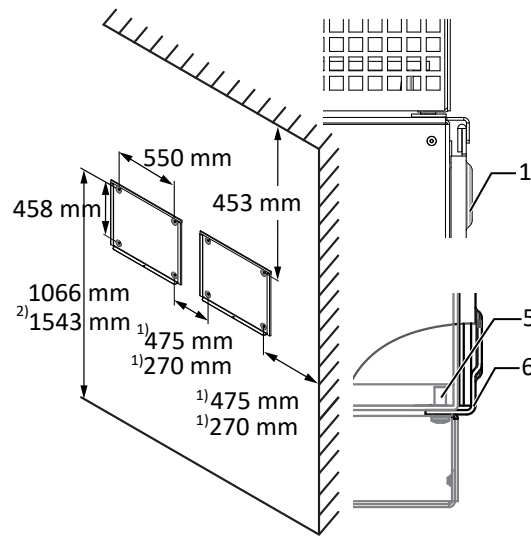

Fig. 17: Wall mounting
- Minimum clearances to be observed during installation: [See figure 17] [▶ Page 18]
2 Fit the device onto the upper mount by means of the mounting bracket. Fit the device onto the lower mounting bracket in full so that the device sits flush with its rear side on the mount ( [See figure 17] [▶ Page 18]).